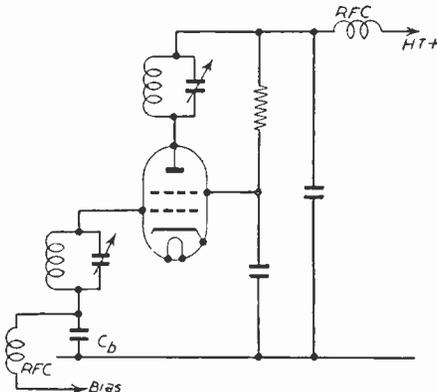
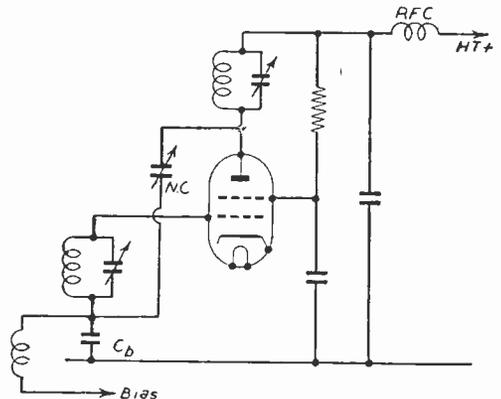
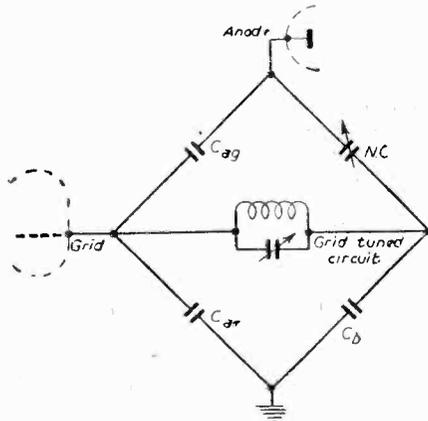

Fig. 1.—A conventional single-ended Tetrode P.A. stage.
Fig. 2.—Addition of the neutralising condenser N.C. enables the single-ended stage to be neutralised very simply.
Fig. 3.—The essential "neutralising bridge" inherent in the circuit of Fig. 2.
Taking the simple single-ended stage of Fig. 1 as an illustration, the circuit of Fig. 2 shows how the addition of a single neutralising condenser produces a neutralised stage.
As the principle may not be immediately clear from the circuit, which seems "too simple to work," it must be explained that in reality the circuit is a "capacity tap" form of grid-neutralised arrangement. To show this more clearly, the essential components of the bridge network forming the neutralising system are drawn in bridge form in Fig. 3. As might be expected, the important components are those invisible on the usual circuit diagram, that is, the grid-to-earth capacity of the P.A. valve and the apparently unimportant "earthing condenser" attached to the earthy end of the grid circuit. As Fig. 3 shows, the "ratio arms" of the bridge circuit are formed by the grid-to-earth capacity of the valve and the "earthing" or "by-pass" condenser from the earthy end of the grid tuned circuit to earth! This is important, as it means that the actual value of the neutralising condenser has to be many times greater than the "anode to grid" capacity of the valve which is to be "neutralised" out. In fact, with a valve such as the 807, where the small anode-to-grid capacity usually means the improvisation of a very awkward "twisted wire" or some similar very small neutralising capacity, the circuit of Fig. 2 enables a normal small variable condenser, which can be a readily adjustable panel control, to be used.
- C_b Bypass condenser as in Fig. 2.